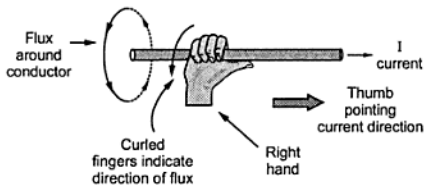

Fig. 3.14 Right hand thumb rule
- 1) **Right hand thumb rule :** It states that, hold the current carrying conductor in the right hand such that the thumb pointing in the direction of current and parallel to the conductor, then curled fingers point in the direction of the magnetic field or flux around it. The Fig. 3.14 explains the rule.